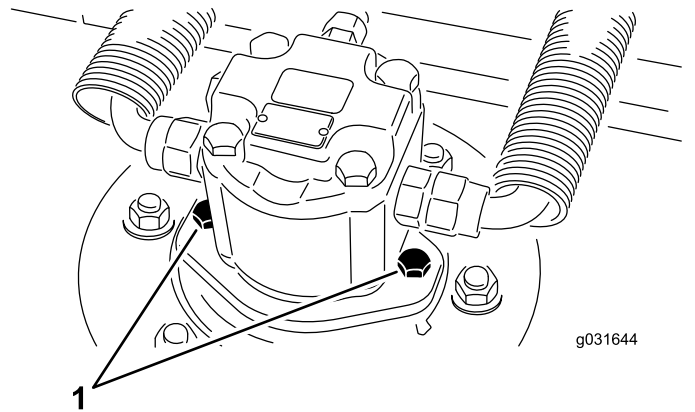

Figure 67
2. Remove the hydraulic-motor-mounting screws and disconnect and remove the hydraulic motor from the cutting unit (Figure 67).
4. Using the hydraulic-motor-mounting screws, install the hydraulic motor to the cutting unit (Figure 67).